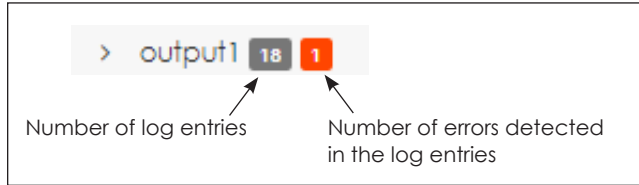

Figure 10: Bootloading Details
6. Click > **Show Progress Details** to see the bootloading progress bar for the selected output. If any errors are found, a red box with the number of detected errors appears next to the output name. Refer to **Figure 10**.